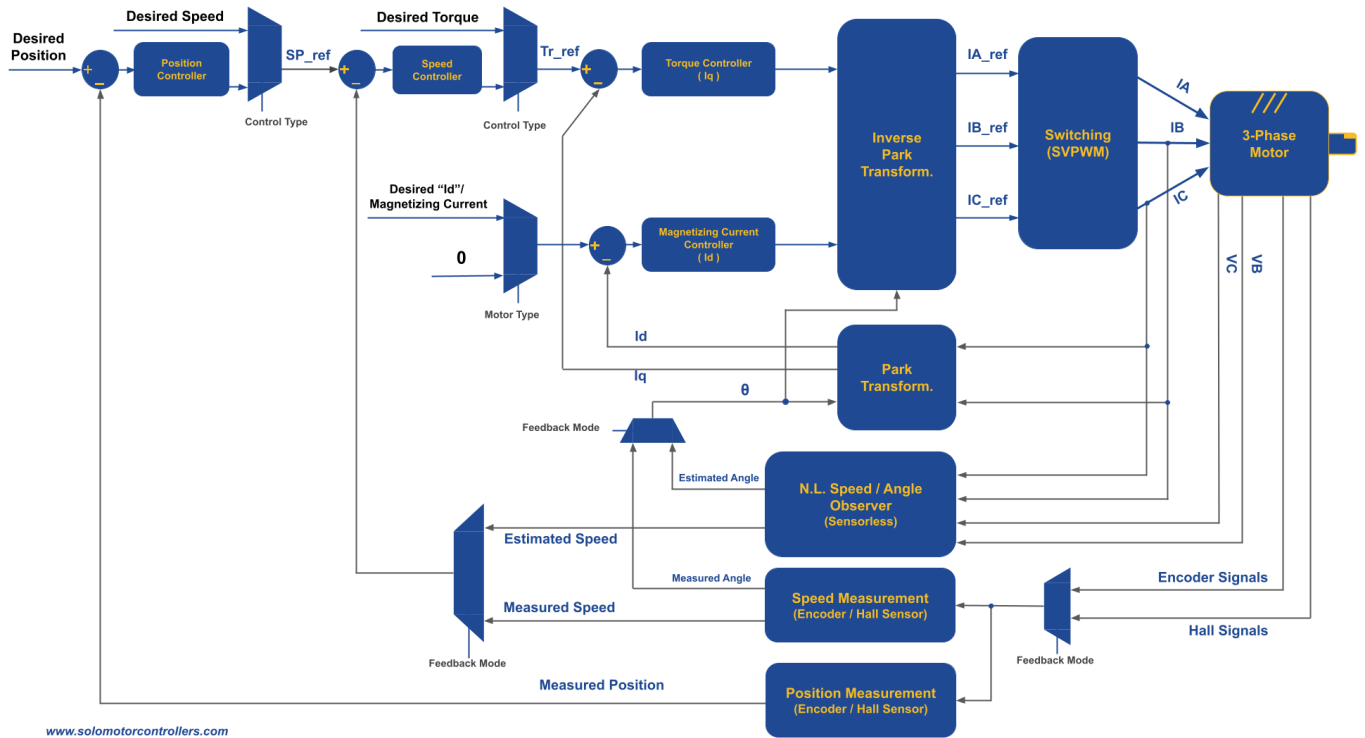
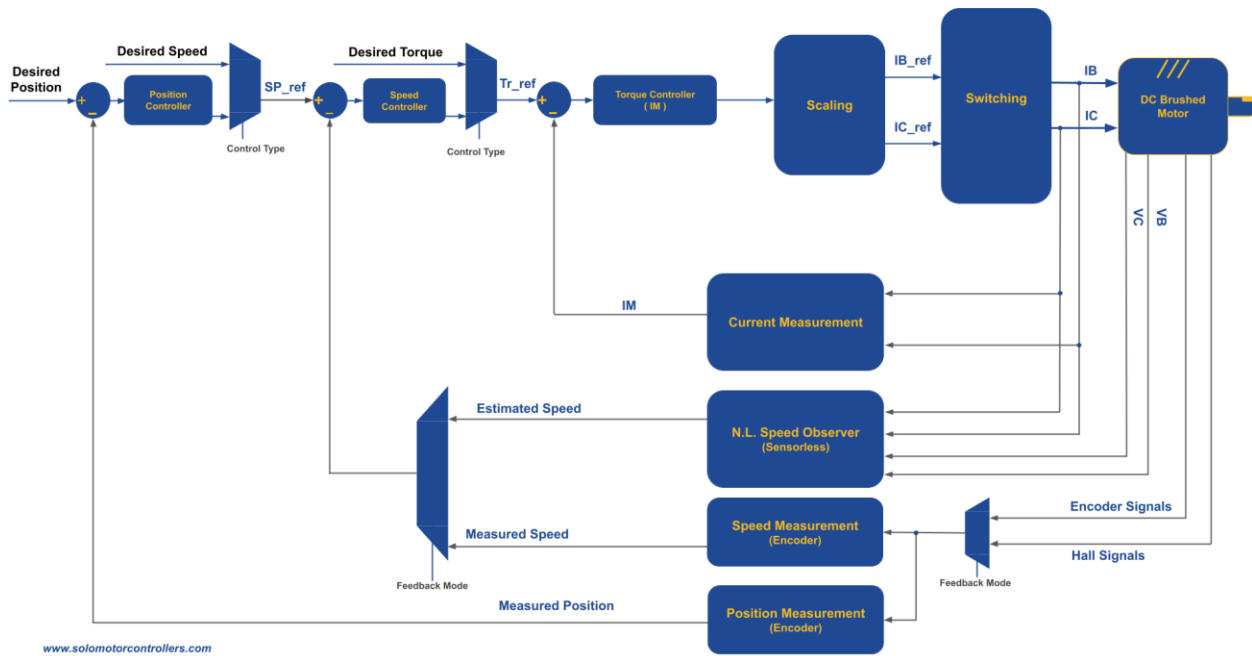

Figure 2 - FOC Control Architecture of SOLO UNO for 3-phase Motors
Figure 3 - Control Architecture of SOLO UNO for DC Brushed Motors
- All The sections are referred to **Figure 2** below
In general we can divide the whole control architecture of SOLO for two different types of Motors, the 3-phase motors that can be seen in Figure 2 and Brushed DC motors that can be seen in Figure 3 below, as can be seen in these figures, the main foundation of the architecture of motor controlling in SOLO is based on four fundamental controllers:
As can be seen in Figure 2, to control any of the Torque, Speed and even position of a 3-phase motor in FOC fashion, there is a need to have at least 4 different feedbacks:
As can be seen in Figure 3, the main architecture of Motor Controlling for DC brushed motors in SOLO follows a very similar pattern to 3-phase Motors Controlling with FOC, however the architecture is generally simple with only one cascade loop of Torque, Speed and Position. Similar to 3-phase motors, for DC brushed Motors, SOLO offers both Sensorless and Sensor-based controls as well as Servo-Driving in case an Incremental Encoder is attached to the Motor, so the whole control strategy and tunings are identical to the 3-phase motors in case of using Brushed DC motors.